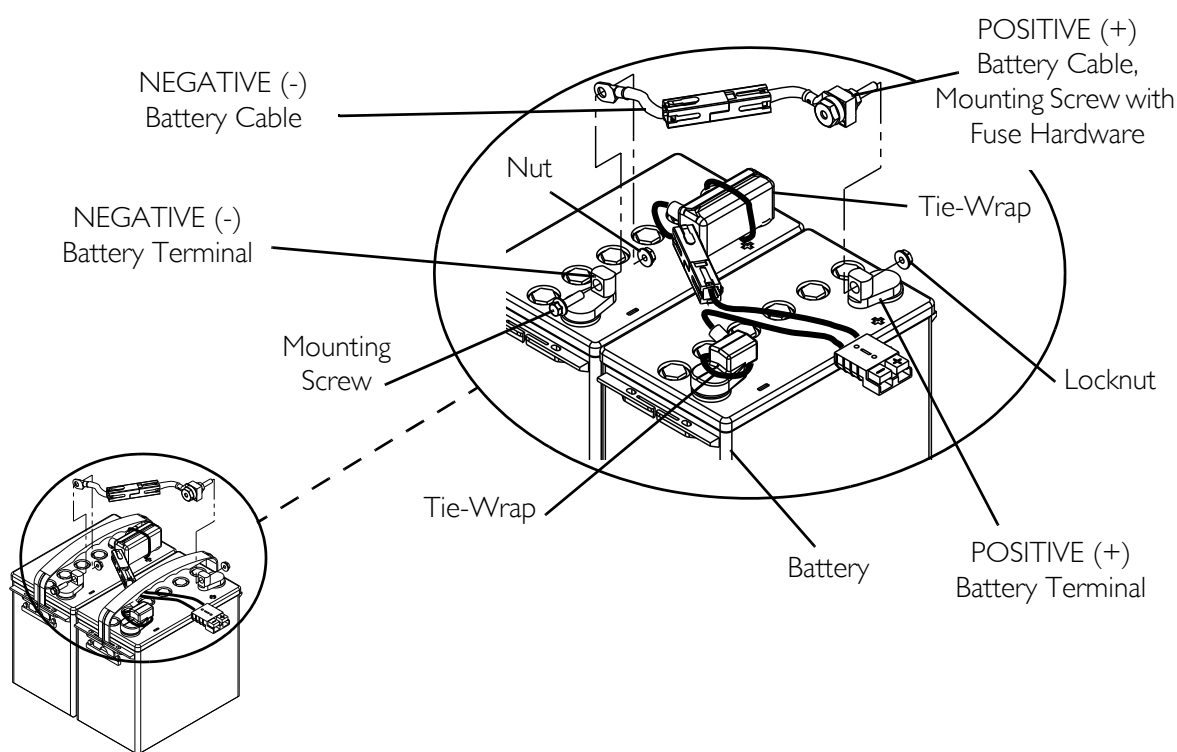

FIGURE 11.3 Connecting/Disconnecting the Battery Wiring Harness
When connecting the battery cables to the battery(ies), the battery cable(s) **MUST** be connected to the battery terminal(s)/post(s) as shown in FIGURE 11.3 otherwise damage to the battery may result.
NOTE: For this procedure, refer to FIGURE 11.3 on page 74.
2. Using the mounting screws and nuts, secure the battery cables to the battery terminals as shown in FIGURE 11.3 in the following order:
6. Using new tie-wraps, secure the terminal covers to the battery terminals as shown in FIGURE 11.3.
3. Remove the mounting screws and nuts that secure the battery cables to the battery terminals as shown in FIGURE 11.3 in the following order: